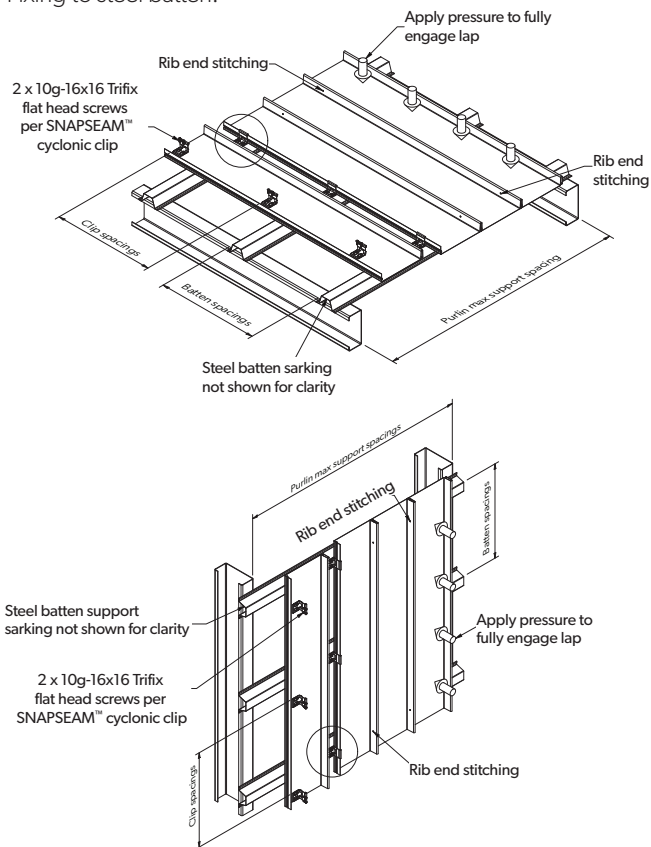

Figure 12.2.2:
2. Screw fix the clips over the under lap edge to battens or ply as shown in Figure 12.2.1 and Figure 12.2.2.